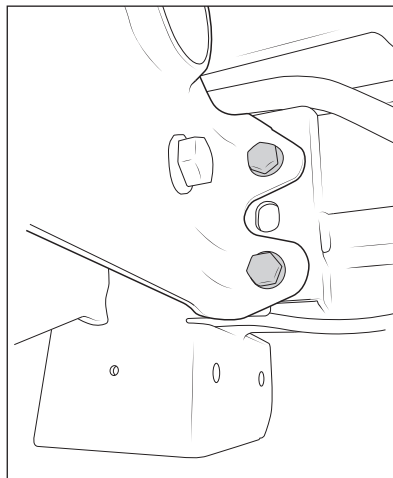

Figure 3
- Locate and remove the two M10 bolts from underside of the AEV Rear Bumper (fig. 3). Set aside for later use.